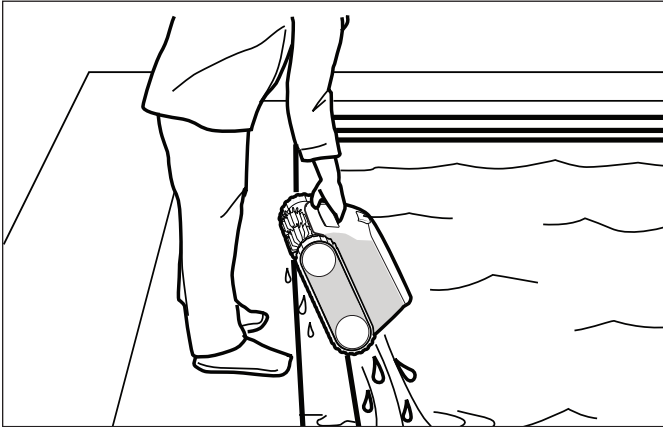

**Figure 7. Optimal Entry Point in Pool**
**NOTE:** Place all of the floating cable in the water to allow free movement in your pool from the central point. Spread out the floating cable ensuring there are no kinks or coils in the cable (Figure 7).